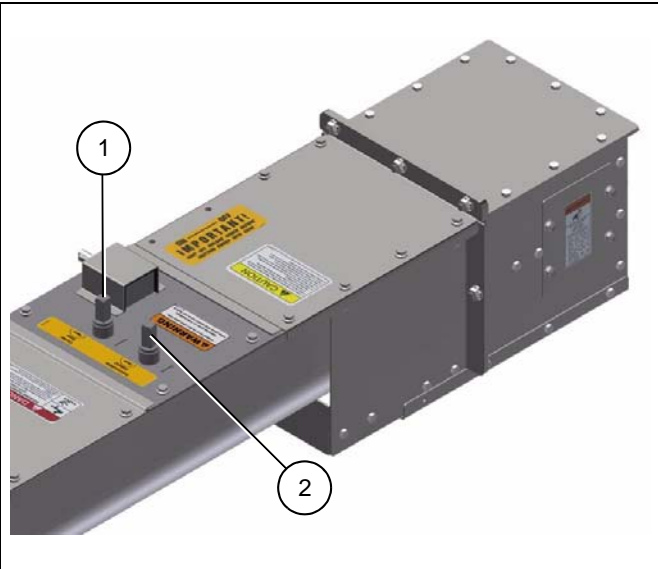

Figure 6D
1. Gate controls include interlocks to prevent off-center unloading. The outer gates cannot open without the inner intermediate gates opening. The inner intermediate gates cannot open without the center gate opening. (See Figure 6D.)